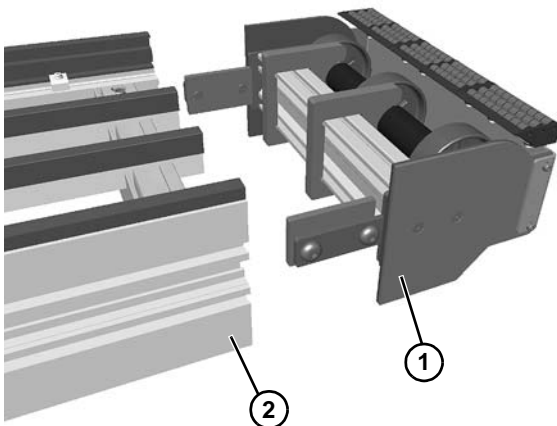

Figure 88
3. Remove the idler tail assembly (**Figure 88, item 1**) from the frame (**Figure 88, item 2**).